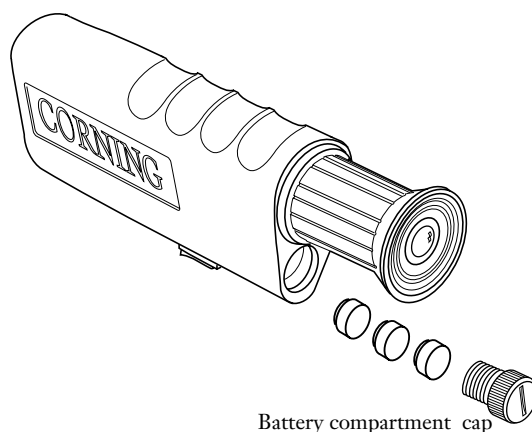

Figure 10
6.2 To install or replace the batteries in the microscope (Figure 10):